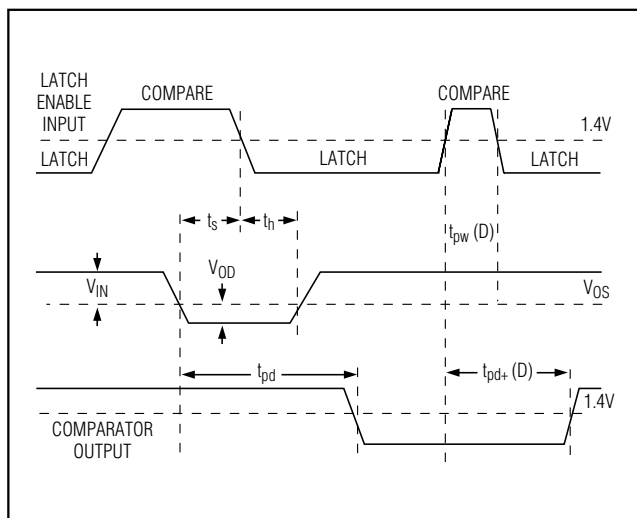

図2. MAX9201/MAX9202/MAX9203のダイアグラム
**Note 6:** Guaranteed by design. Times are for 100mV step inputs (see propagation delay characteristics in Figures 2 and 3)